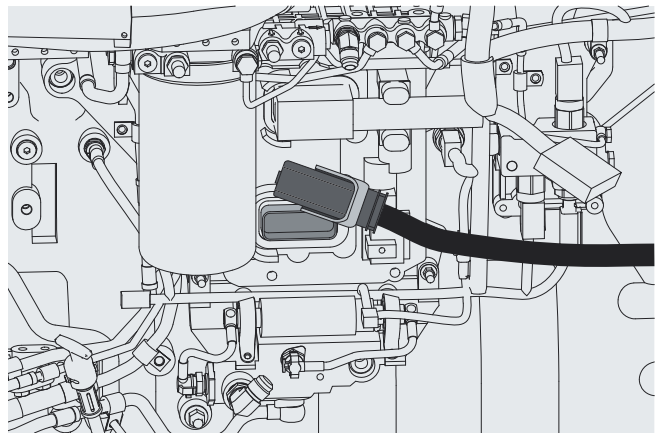

Figure 5-1-3 Disconnect ECM(Electronic Control Module)
- Disconnect ECM (Electronic Control Module). The ECM connector is located on the right side of the engine (see Figure 5-1-3).